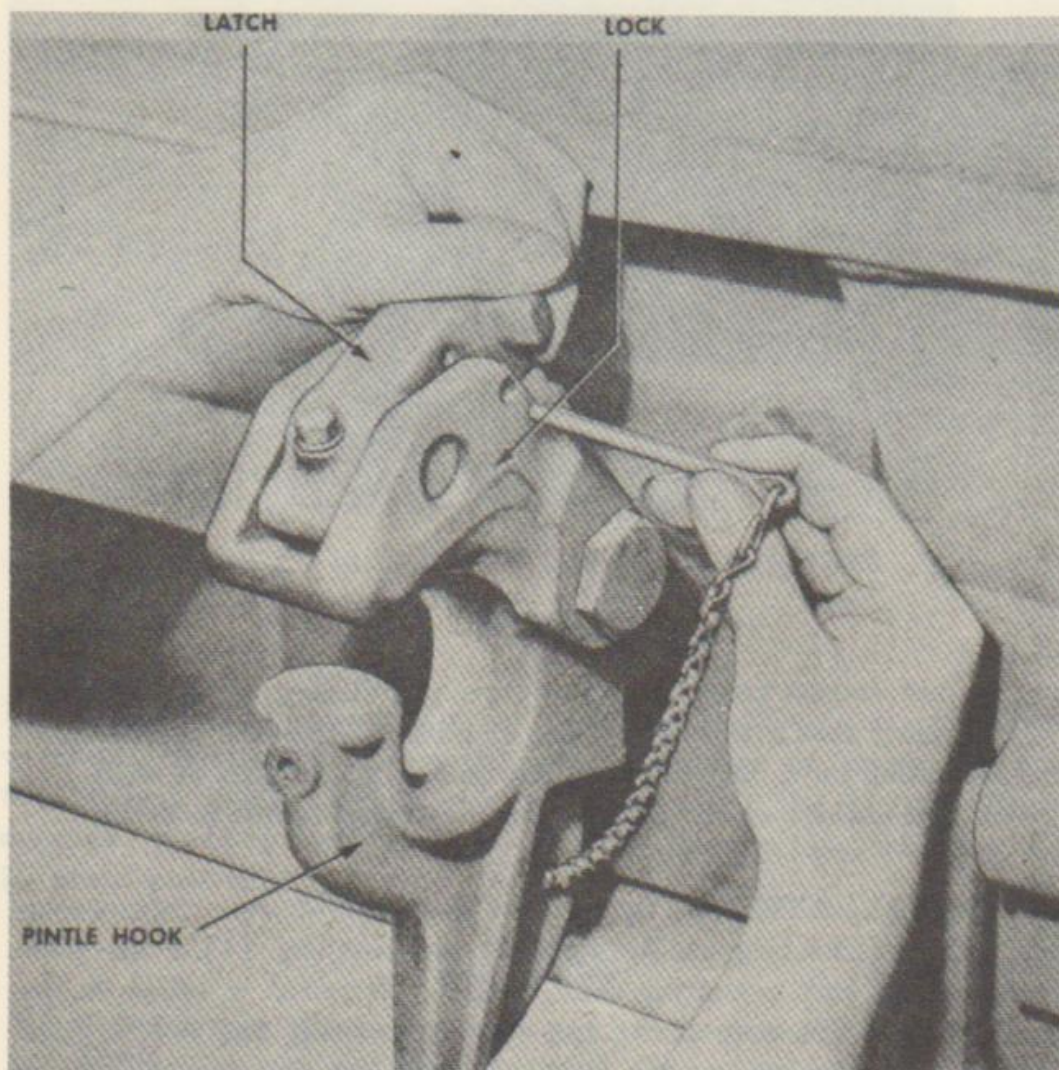

FIGURE 15. PINTLE HOOK
a. **Location** (fig. 15). The pintle hook is located in the center of rear crossmember on semitrailer.